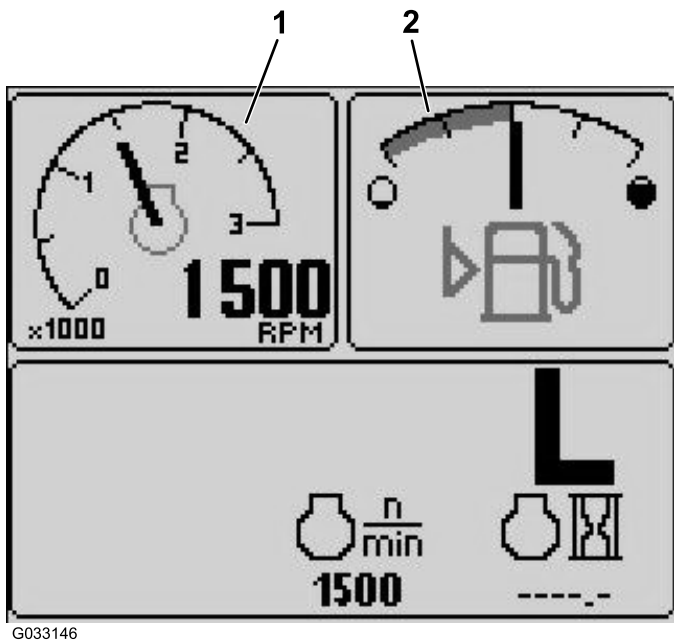

Figure 3
- Tachometer—top, left screen (Figure 3)
- Fuel-level indicator—top, right screen (Figure 3)
This display indicates the level of fuel in the tank (Figure 3).
This display shows the engine-operating speed in rpm (Figure 3).